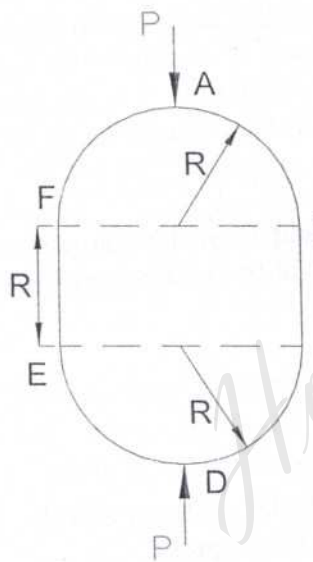

Fig. Q. 3
Q. 3) The link shown in Fig. Q. 3 consists of two semi-circles and two straight portions of constant section throughout. It is subjected to the action of two equal and opposite axial forces 'P' acting along the vertical axis of symmetry. Assuming that the cross-sectional dimensions of the link are small in comparison to the radius 'R', determine (i) the B.M. at A, B and at the midpoint of BC, (ii) the shortening of AD.